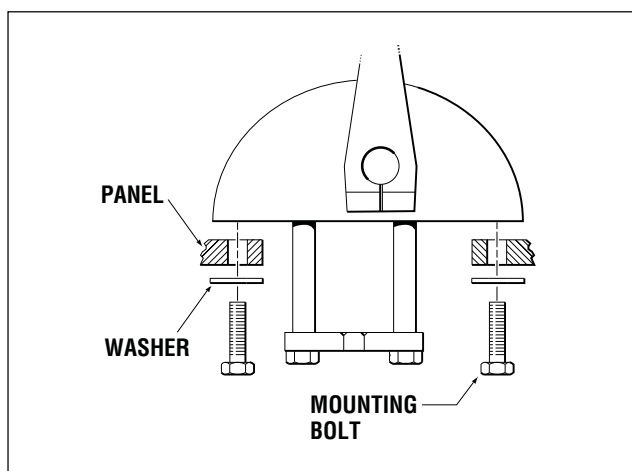
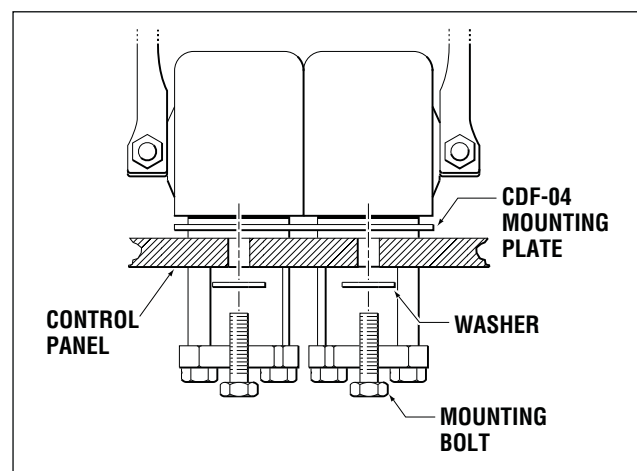

Figure 2. Single Head Sender.
Figure 3. Side-By-Side Senders.
- 6 Secure senders per Figure 2 for single head, or Figure 3 for side by side mounting.